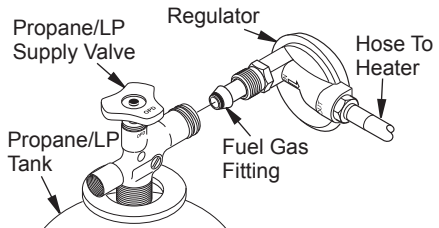

Figure 14 - Regulator Position
5. Connect fuel gas fitting on hose/regulator assembly to propane/LP tank(s). Turn fuel gas fitting counterclockwise into threads on tank. Tighten firmly using a wrench. **IMPORTANT:** Position regulator so that hose leaving the regulator is in a horizontal position (see Figure 14). This places the regulator vent in the proper position to protect it from the weather.